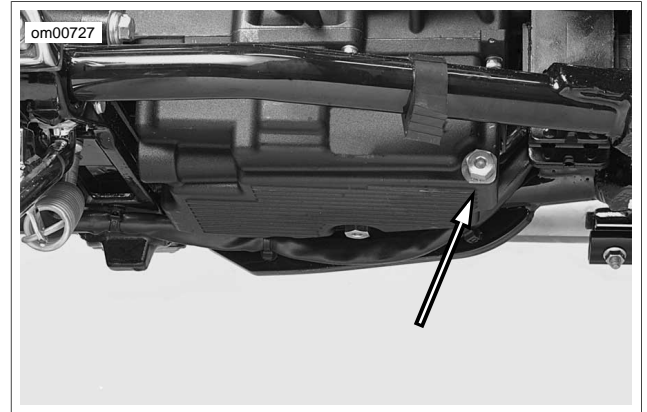

Figure 1-3. Engine Oil Drain Plug (oil pan under transmission, view from left side of vehicle)
3. See Figure 1-3. Remove the engine oil drain plug with o-ring. Allow oil to drain into a suitable container.
6. See Figure 1-3. Install oil pan drain plug (1).